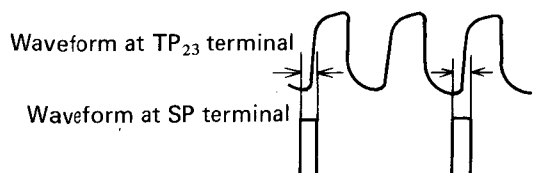

Fig. 13
1. Observe the output waveforms from SP and TP₂₃ (Fig. 13). (Two output pulses from terminal TP₂₃ will correspond with one pulse from terminal SP.)